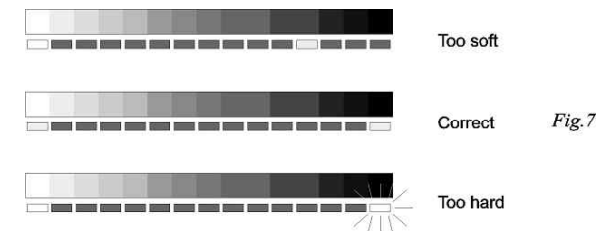

Fig.7
- 1 If the shadow LED is not at the black end of the grey scale but adjacent to a grey tone, this indicates that the contrast range of the negative is smaller than that of the paper. Press \triangleleft to increase the paper grade setting until the shadow LED moves to the extreme right of the grey scale. If you increase the grade too far, the LED will flash to warn you that shadow detail will be lost (Fig.7).